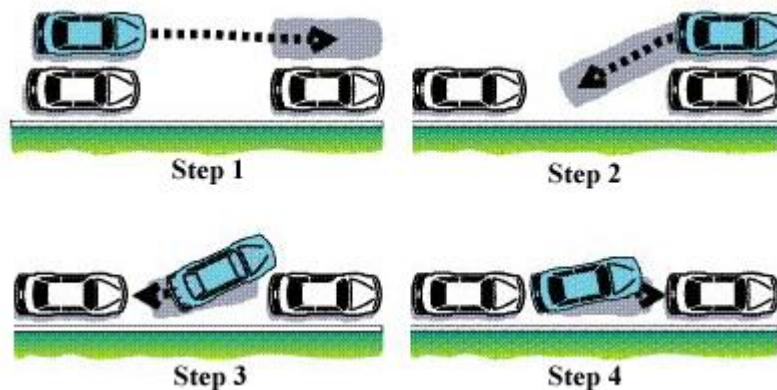

Figure 22. The basics of parallel parking.
1. Imagine that you have to parallel park your XBot on the street. Set up obstacles on the floor to simulate a parking spot on the street, and program your XBot to drive up to the spot, and park without touching other cars. Use Figure 22 as a reference.